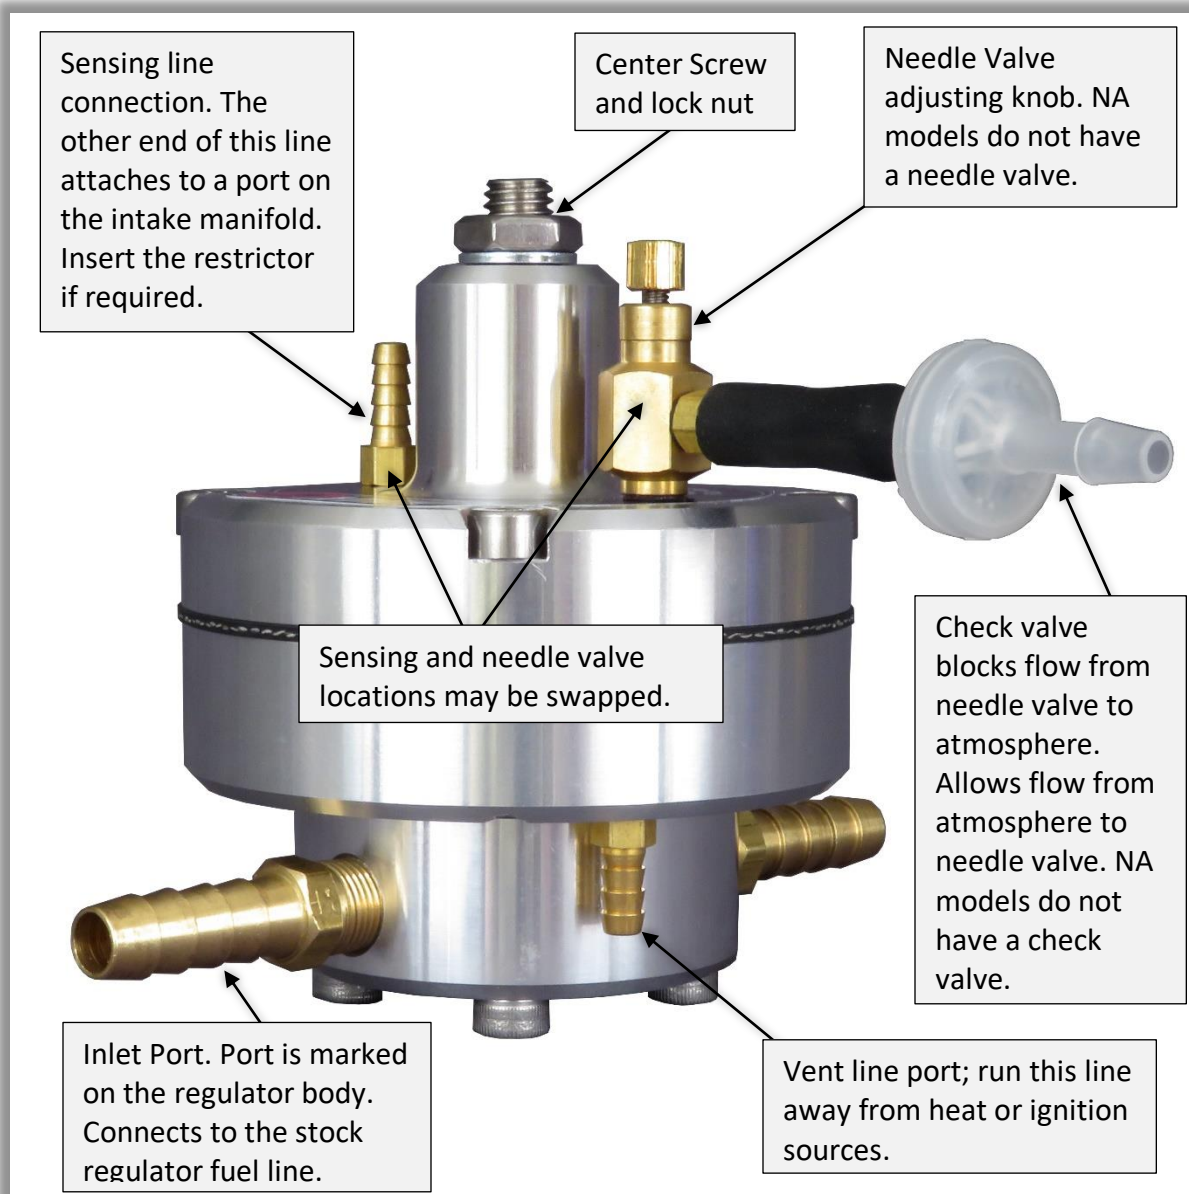
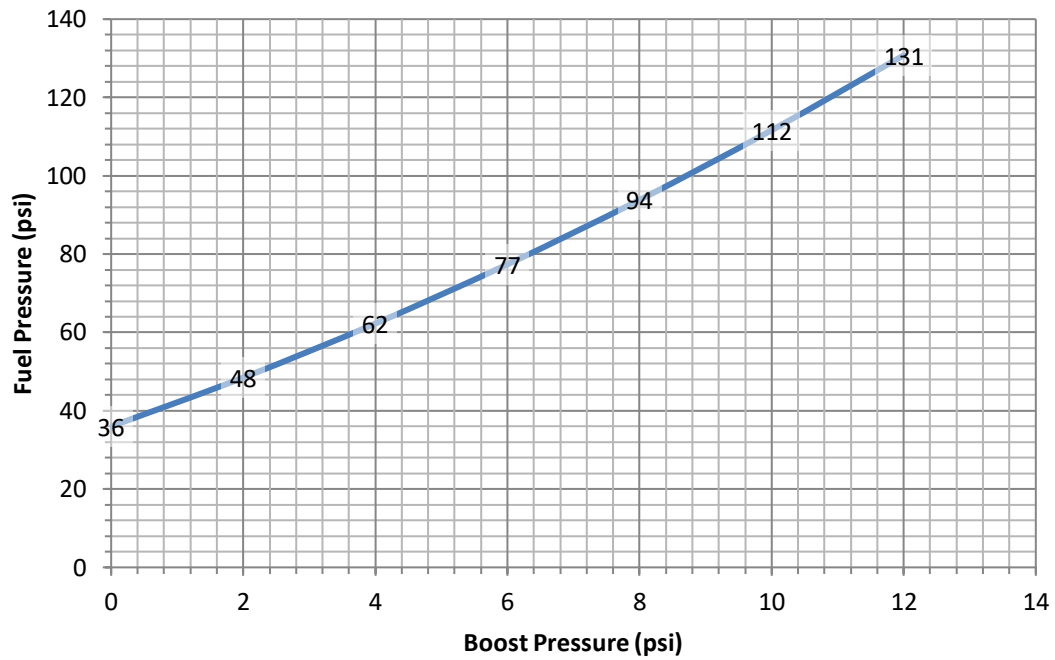

Figure 1
Figure 5
7. Run a line from the vent port (see figure 1) to an area outside the engine compartment and away from heat or ignition sources.
The regulator is powered by manifold pressure (vacuum and boost). The manifold pressure “signal” must come from the intake manifold, **after the throttle plate**. The signal is transmitted by a sensing line that connects the manifold to the sensing port on the regulator. The regulator will not work properly if the signal comes from anywhere else. See Figure 1 for the location of the sensing line fitting on the regulator.
For the 2025-NA regulator, the center screw (see figure 1) is the only adjustment possible. It determines the fuel pressure achieved at full throttle. Turning the center screw clockwise raises the fuel pressure. There is no needle valve, check valve, or restrictor with the 2025-NA regulator.
Two adjustments are necessary with this regulator. Engines that were originally naturally aspirated and are subsequently fitted with forced induction systems often exhibit extreme leanness in the range of 4 inches of vacuum to approximately 3 psi boost. This happens because the turbo/supercharger can achieve atmospheric pressure in the manifold prior to the throttle being fully open. Without fully opening, the throttle position sensor will not properly inform the ECU of what's going on, hence, a lean condition occurs. This is not as prominent in later model OBD2 automobiles where the O2 sensor feedback covers a broader range. The 2025-SC is designed to compensate for this lean condition by starting the increase in fuel pressure at the correct point. This is called the "On Set Point" and is adjusted by the regulator center screw (see *Figure 1*).
The first adjustment is to set the On Set Point. Make this adjustment with the sensing line disconnected and the engine at idle. Disconnecting the sensing line simulates passing through the zero point. Setting the On Set Point is done using the center screw (see *Figure 1*). Turning the screw clockwise will raise the On Set Point pressure. A suggested pressure for starters is 48 to 50 psi. Once adjusted, plug the vacuum line back onto the regulator and observe the fuel pressure drop back to the stock figure.
The second adjustment controls the rate of gain of fuel pressure versus boost pressure. This adjustment is made using the needle valve (see *Figure 1*). The lowest fuel pressure (lowest rate of gain) is with the needle valve fully open and the highest fuel pressure (highest rate of gain) occurs when the needle valve is fully closed. Clockwise closes the needle valve and increases fuel pressure. *Figure 5* gives a guide to good starting point fuel pressures versus boost pressure. Adjust the fuel pressure (rate of gain) until the desired air/fuel ratio is achieved.
The curves in *Figure 5* were calculated as follows (all pressures are in psi). Graph calculation assumes the atmospheric pressure is 14.7 psi and $FP_0 = 36$ psi.